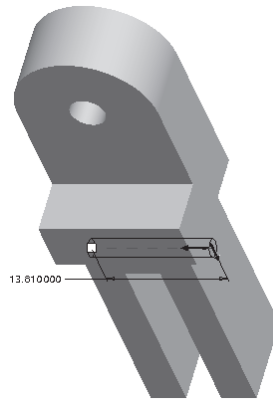

Figure 4-71 The two arrows on the cut feature
3. Choose the **Saved view list** button from the **View** toolbar and from the drop-down list, select the **Default Orientation** option. The model is displayed, as shown in Figure 4-71. Two yellow arrows also appear on the model. One arrow shows the direction of feature creation and the other arrow shows the direction with respect to the sketch from where the material will be removed. The arrows should point, as shown in Figure 4-71.